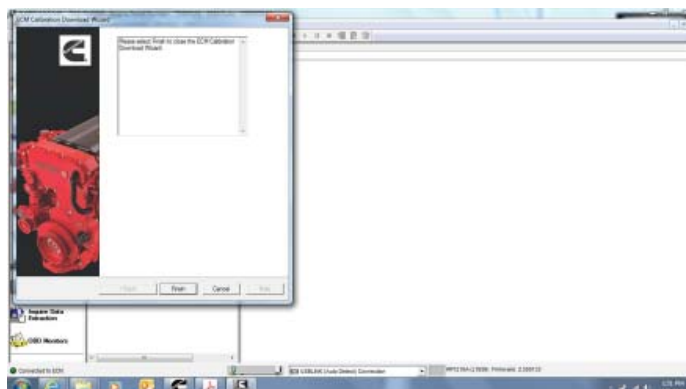

Figure 27 - Calibration Complete
1.27. After ECM calibration is complete, a pop up window should appear, click on Finish. See Figure 27. ❖